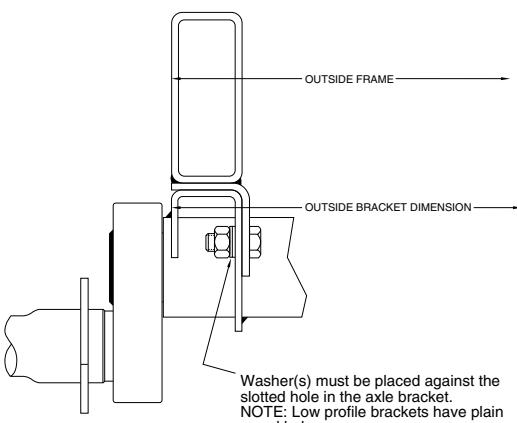

Figure 1
a. For structural tube type frame rails, refer to Figure 1 for the recommended attachment.